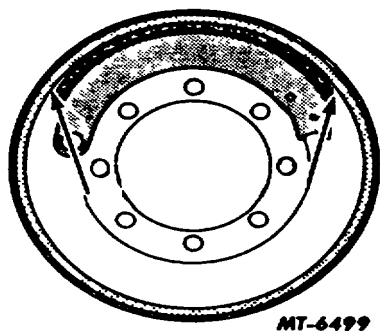
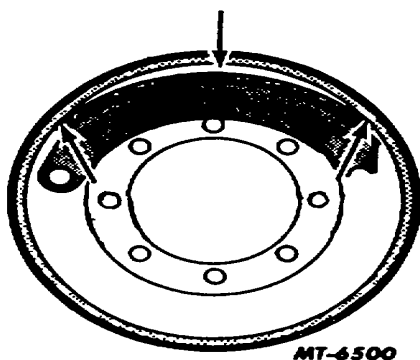

Fig. 9 Space At End Of Shoe Lining Selected Too Thin
Fig. 10 Space At Center Of Shoe And Lining Contacting Ends, Lining Selected Too Thick
**ANCHOR PIN LOCK BOLT (Fig. 9)**
Hold standard size lining snugly to the shoe, position it against the inner surface of the drum, forcing it into contact with the drum surface. The lining is now in the same position as during a brake application. If space is noted at the ends of the shoe (shoe can be rocked), oversize lining is required (Fig. 9). If lining selected is too thick, only the ends of the lining will contact the drum. See Fig. 10.